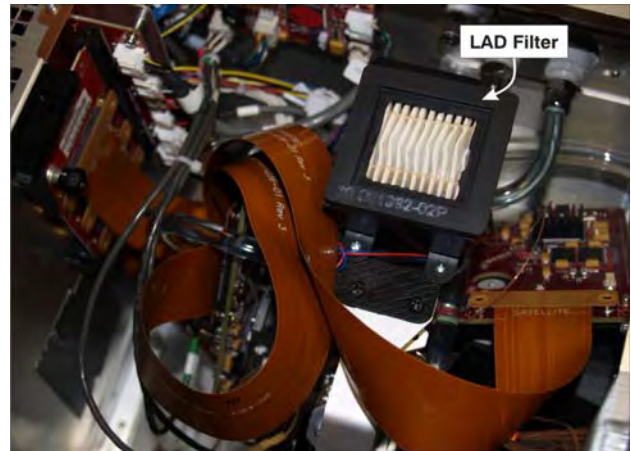

Figure 5-14 LAD Filter
3. Pull the LAD filter out. (**Figure 5-14**)